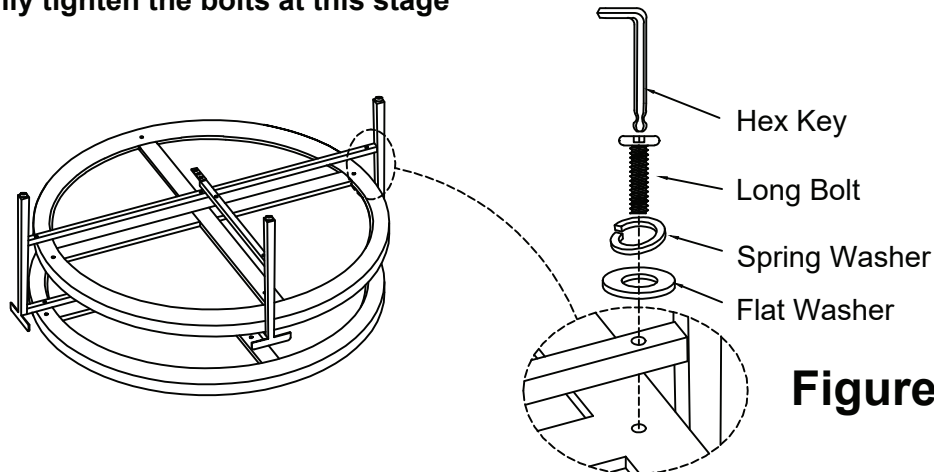

Figure 3
Attach the Shelf Panel (B) to the Leg Frame (C) & (E) with the Long Bolt, Spring Washer, and Flat Washer. Tighten with the Hex Key. (See Figure 3)